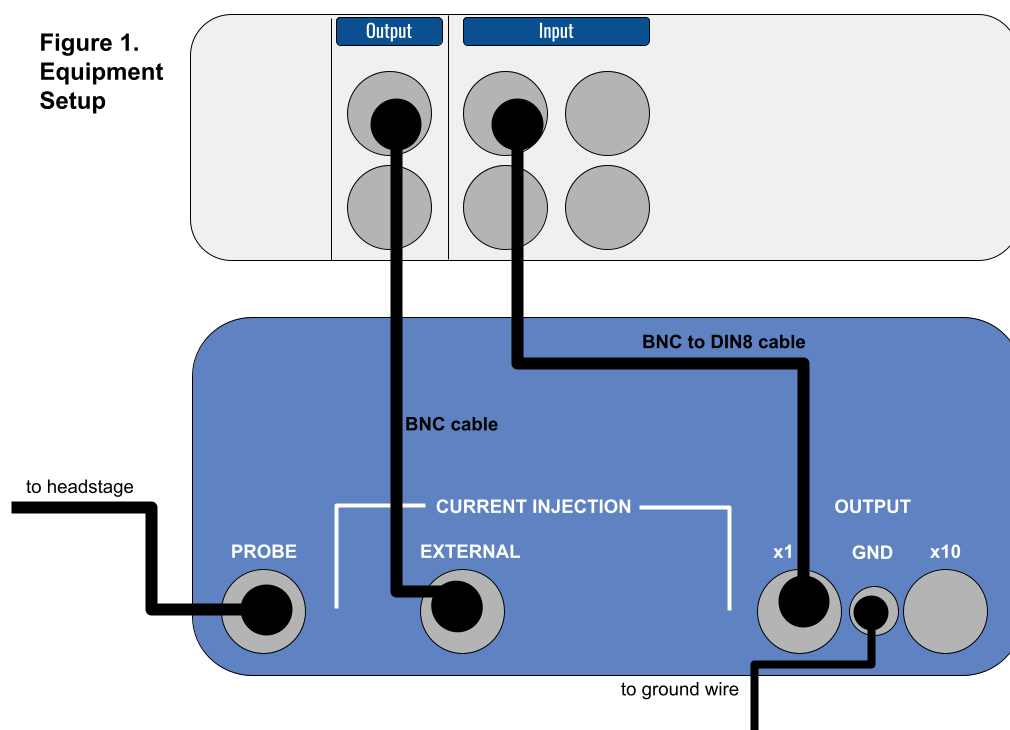

Figure 1. Equipment setup.
2. Configure your PowerLab & amplifier as in Figure 1: